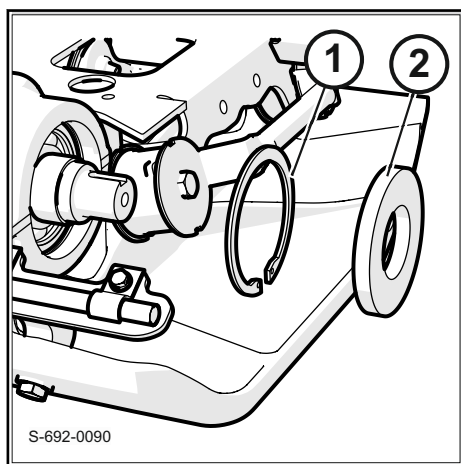

Fig. 90
4. Assemble the circlip (1) ↗ Fig. 90.
5. Install the radial seal (2).